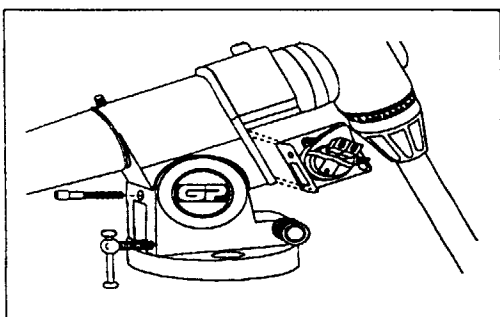

Figure 3
3. Slide the R.A. bracket into the recessed area. The gear on the R.A. motor should be on the left side of the mount (figure 3).